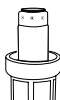

Figure 8
10. Place filter into housing (see Figure 8). Align housing to filter head and screw onto filter head. Tighten with wrench to seal.